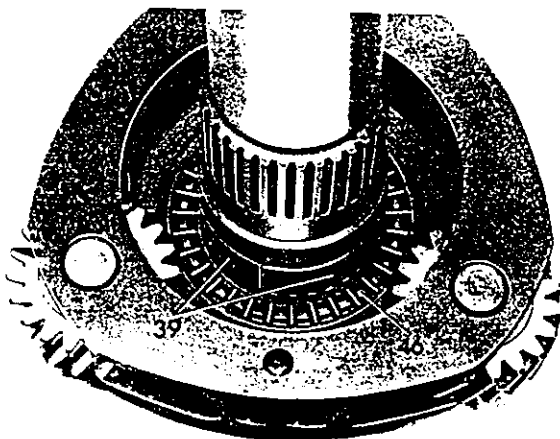

Fig. 13
16 Remove thrust washer (41) with sun gear (40), as well as needle bearings (39) and (46) (Fig. 13 and 14).
- 17** Insert axial bearing (46) and split needle bearing (39) coated with grease (Fig. 13).